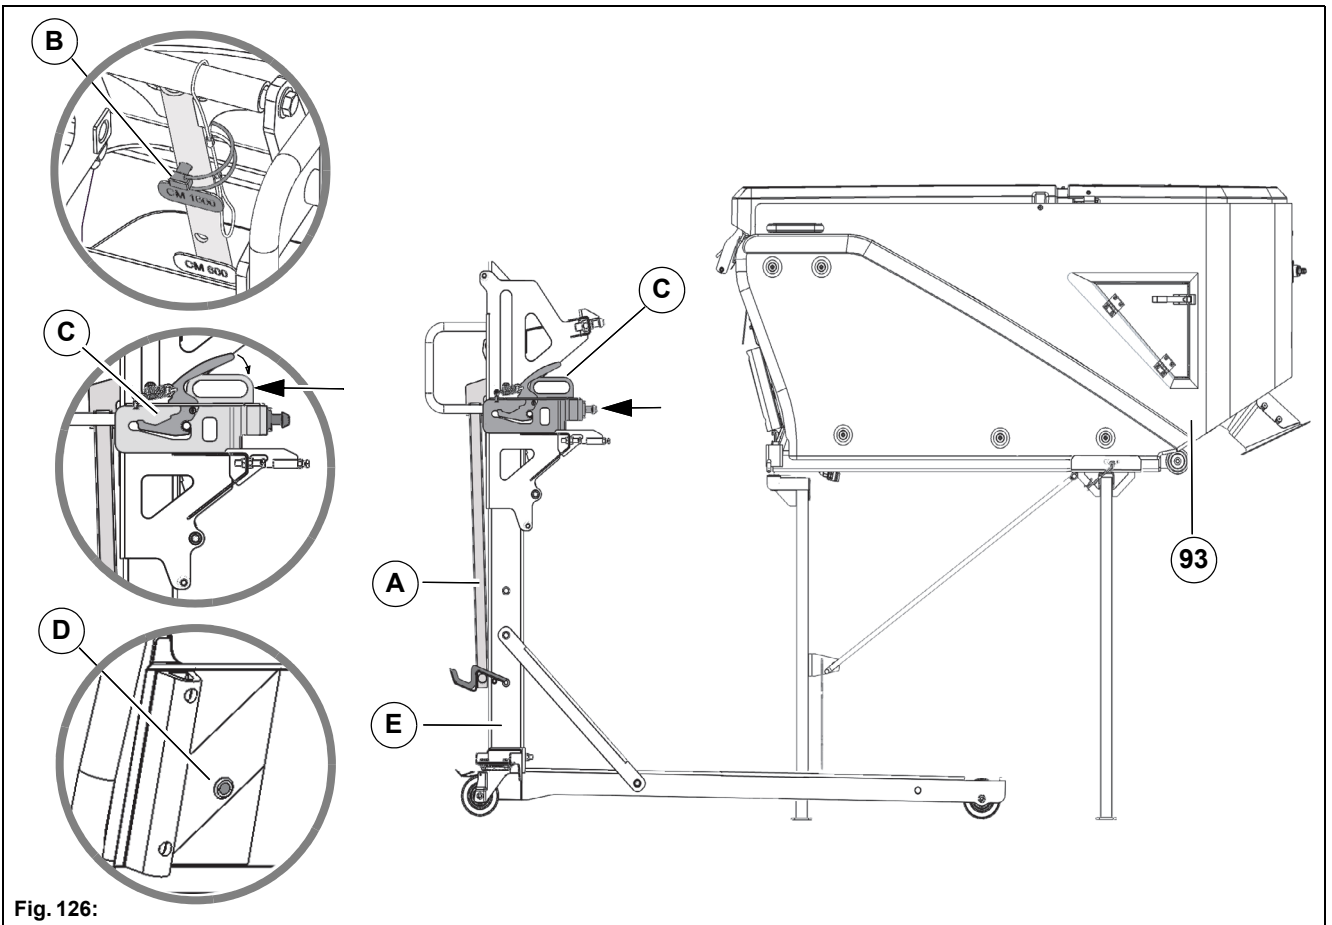

Fig. 126:
2. Unlock the lever **Fig. 126-A** of the trolley **Fig. 126-E** (optional) and swing it into the upper position.
3. Hold the lever **Fig. 126-A** in the upper position with one hand. With your other hand plug the mounting bolt **Fig. 126-B** on the Citymaster 1650.
<p>Danger Risk of injury! The lever Fig. 126-A can swing over.</p>
4. Unlock the sledge **Fig. 126-C** with the lever and push it into the rear position.
5. Open the lock of the lid on the dirt hopper **Fig. 126-D** and swing the lid up.